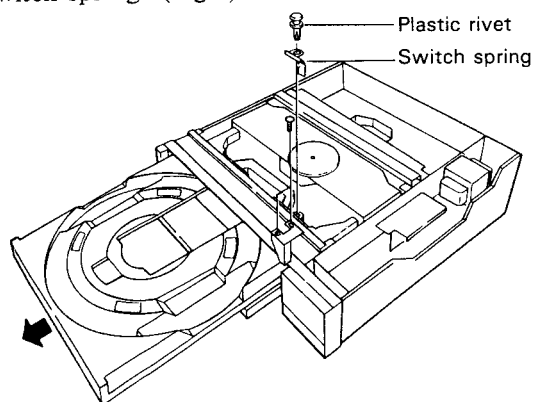

Fig.5
3. Extract the rivet by pulling upwards, and remove the switch spring. (Fig.5)
4. Undo a screw to remove the stopper plate. (Fig.5)